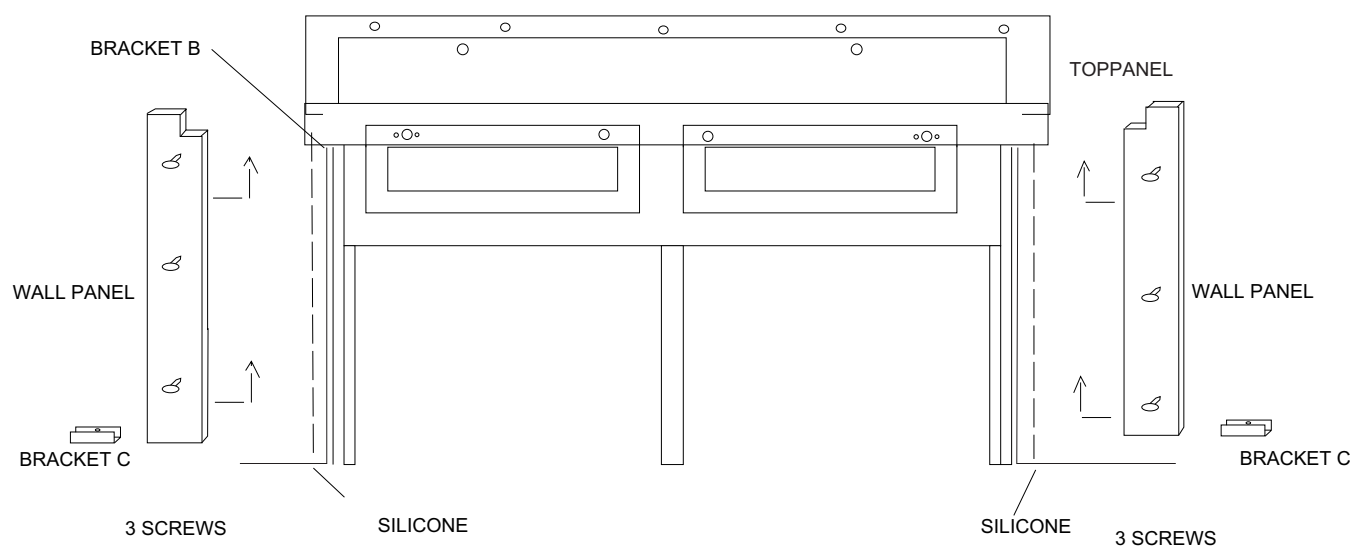

figure 14-9
- 36.** Place WALL PANELS RIGHT and LEFT into BRACKETS A (see FIGURE 14-9).